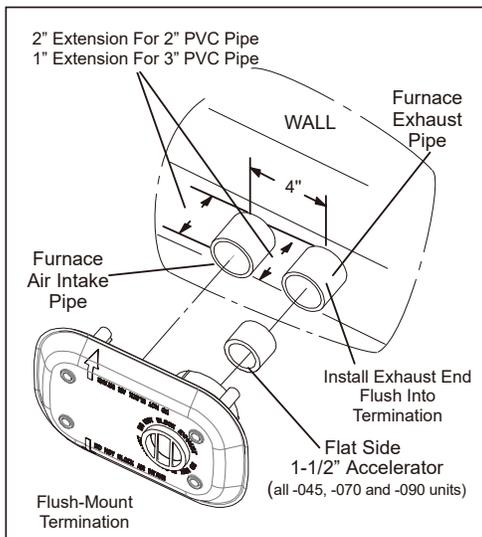
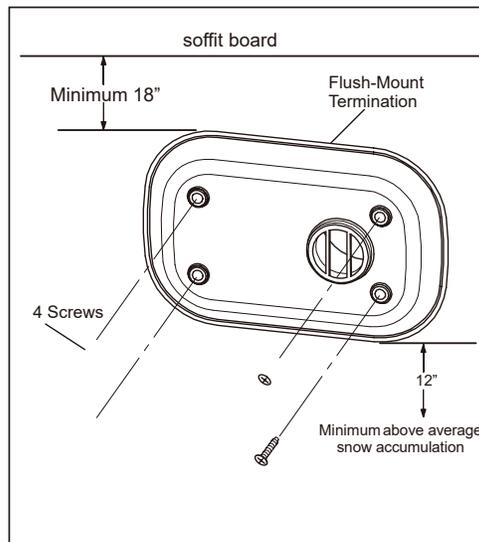
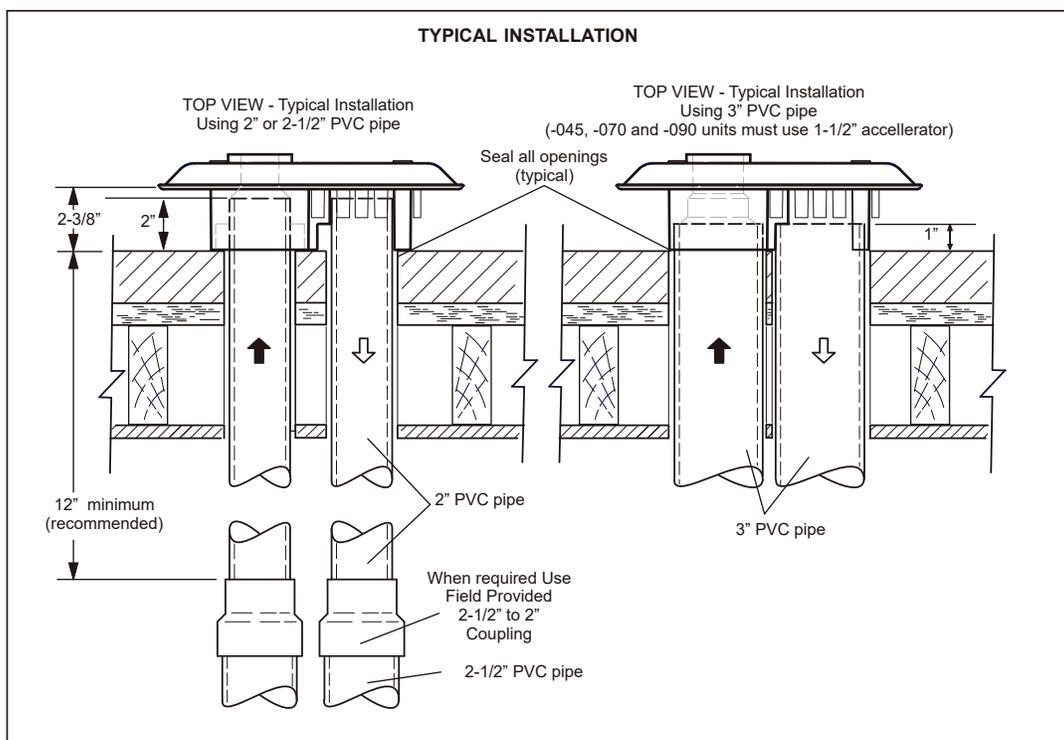

Fig.7-18
Fig.7-19
Fig.7-20
5. When determining pipe length, include the length of exhaust and intake pipes that extend beyond the wall and are flush into the flush mount termination. For 3" pipe add an extra inch to the overall length. For 2" pipe add an extra 2" to the overall length. See Fig.7-18.
6. The 1-1/2" accelerator must be used for all unit installations. Fully insert and glue the accelerator (flat side first) into the 2" exhaust opening. See Fig.7-18.
7. Install the intake pipe and exhaust pipe through the holes drilled in step 4 and into the flush mount termination. Exhaust pipe may be glued but it is not necessary. See Fig.7-18. Seal all openings as indicated in Fig.7-20.
8. Secure the flush-mount termination to the wall using the provided screws and anchors or field-provided screws if applicable. See Fig.7-19. Termination should be flush against the wall as shown in Fig.7-20.